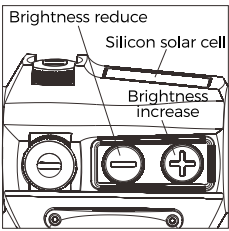

Fig5
1. Switch on (see Fig5): Press and release either brightness button ("+" or "-") to turn on the sight.